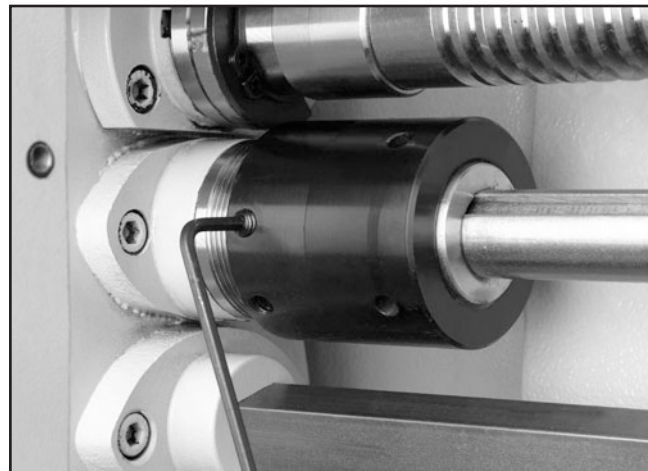

Figure 119. Feed clutch assembly.
3. Using the hex wrench, remove the clutch collar set screw (**Figure 119**).